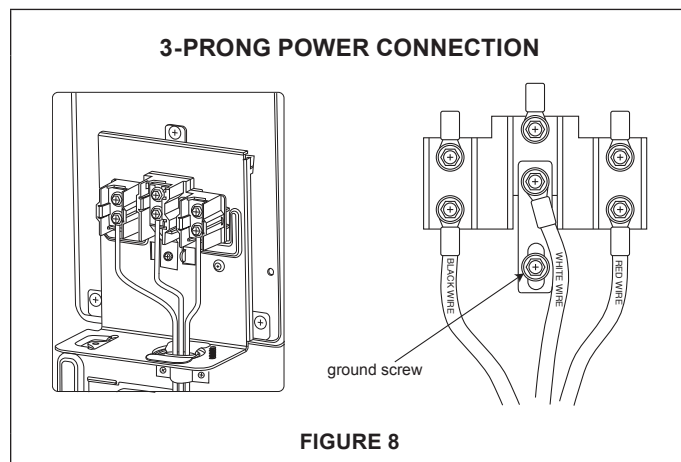

FIGURE 8
- 1 Thread the power cord and leads through the opening below the terminal block. See Figure 8.